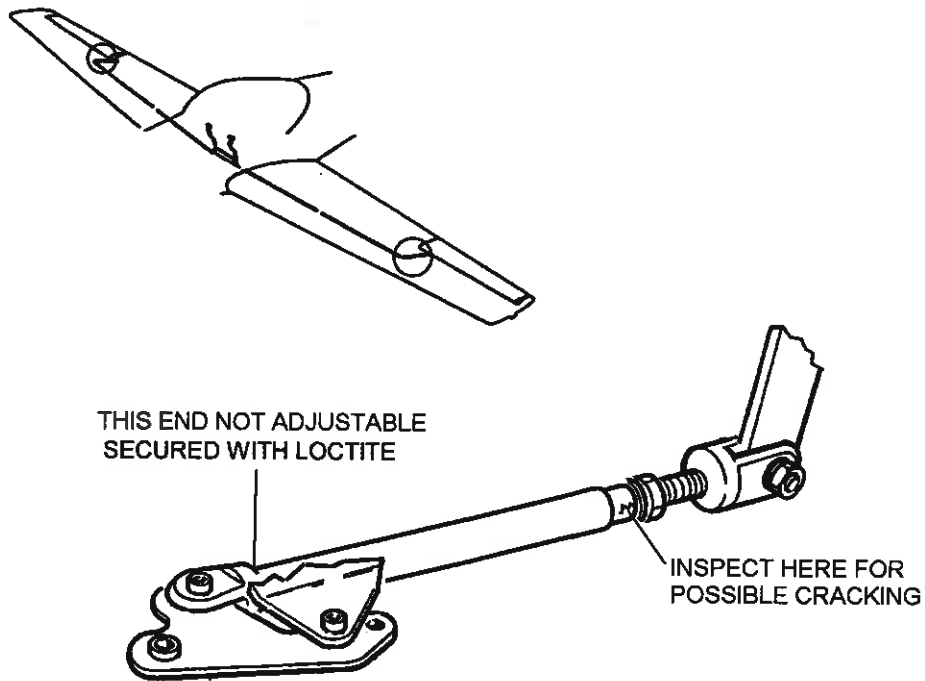

FIGURE 1
2. Inspect the pushrods at the extremes at the ends of the bodies: the cracks are usually on the spanner flats. Ref Fig. 1.
- ii. That the adjustable end is only used for adjustment, ref Fig 1. Note forward end is attached with Loctite and is not for adjustment.